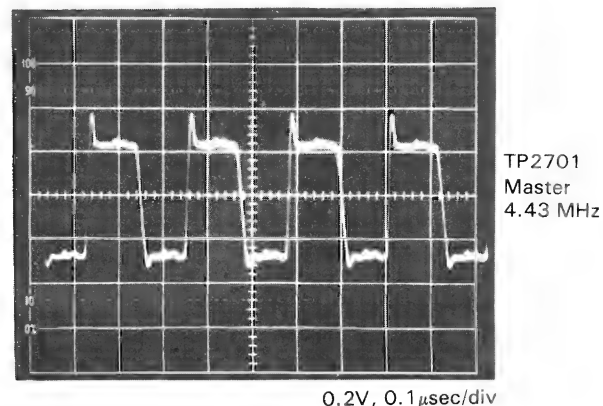

Figure 2-13.
3. Connect a frequency counter to TP2702 (GND) and TP2701 (Master 4.43 MHz) and adjust C2727 (Master 4.43 MHz Adj.) to obtain a frequency counter reading of  $4433.62 \pm 0.02$  kHz at TP2701. (Fig. 2-13)